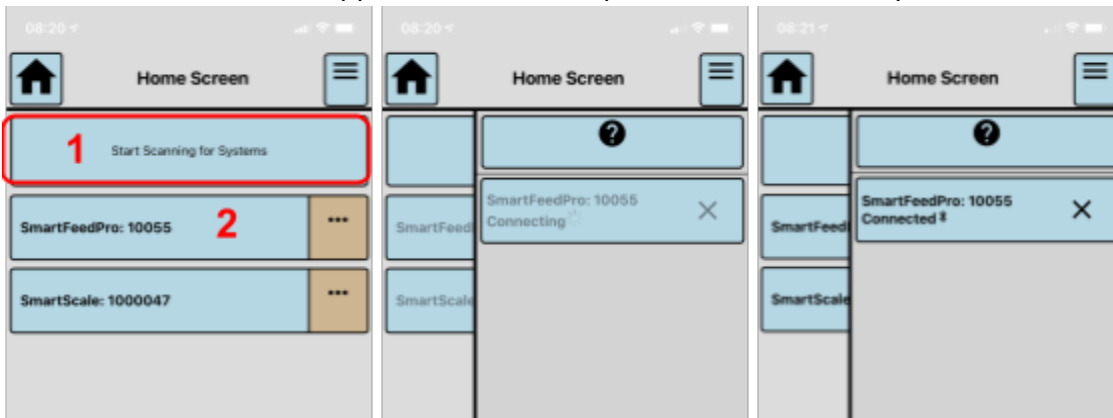

Figure 13) Scanning and Connecting to a SmartFeed System
2. A list of nearby devices (within 50ft / 15m) will appear. See Figure 13.